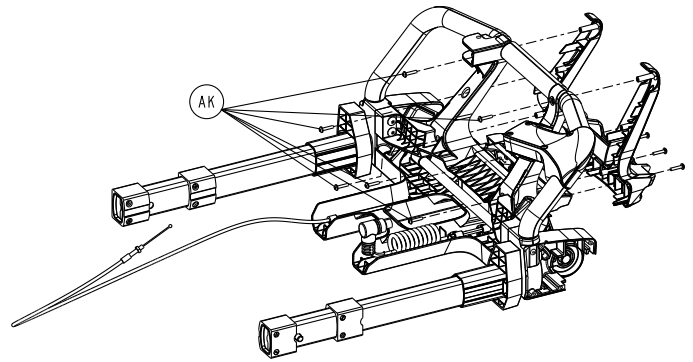

Figure 74 – Remove the foot end housing screws
- Using a T20 Torx driver, remove the six round washer head tapping screws (AK) from the back of the foot end housing (Figure 74). Save the screws.